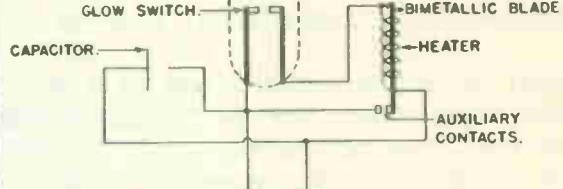

Fig. 6
- d. No-blink Type, Fig. 6. - The no-blink type of automatic starter (also known as cut-out, reset, or push-button types) prevents the switch from opening and closing when the lamp fails to light. It is similar to the glow type except that there is an added heater operated bi-metallic switch which cuts the lamp out of the circuit when it begins to blink.